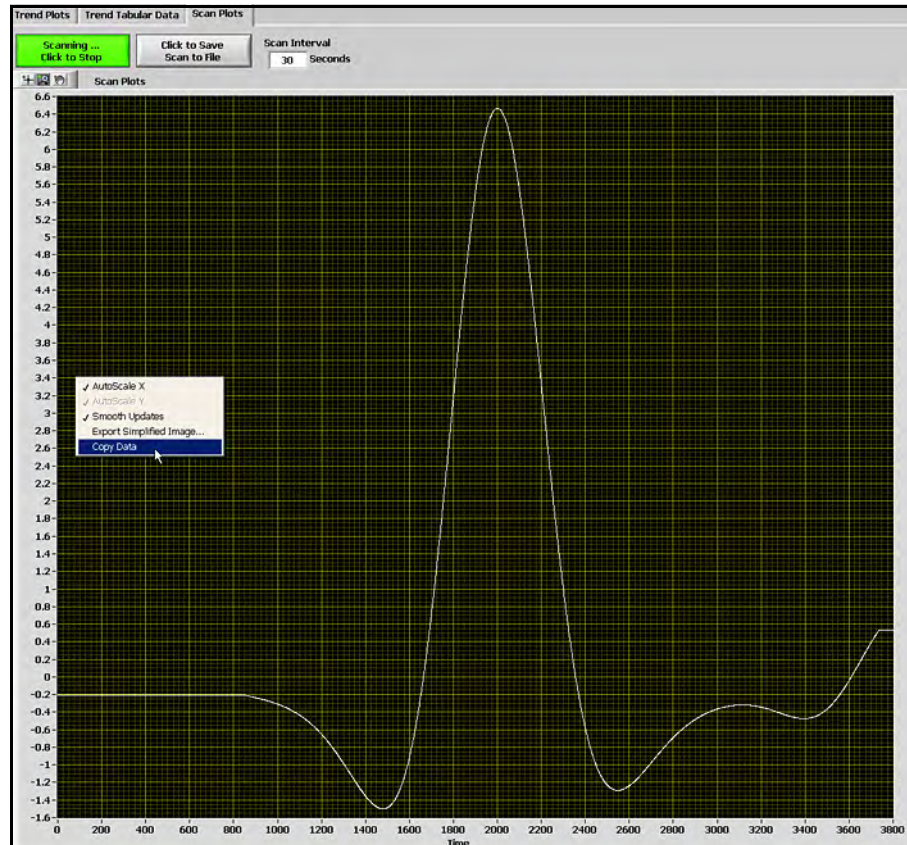
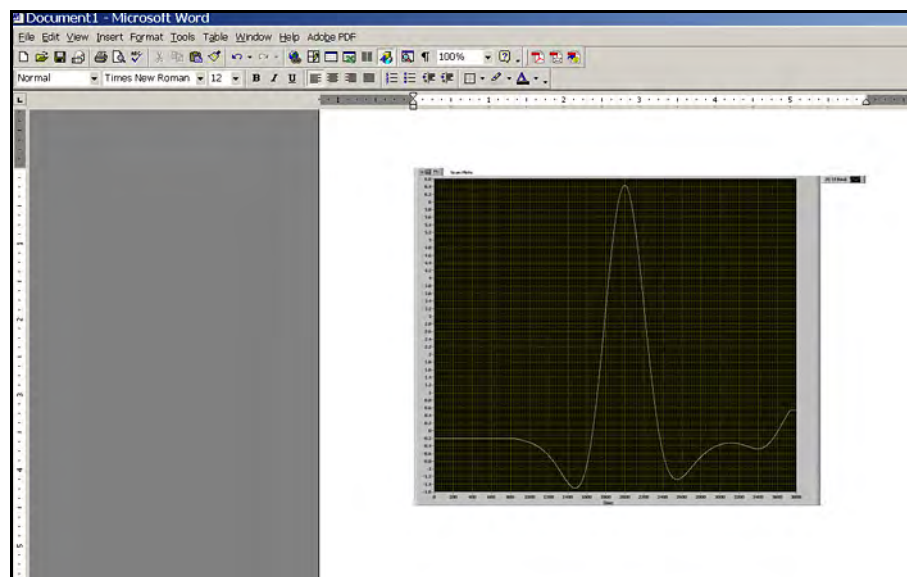

Figure 72: Copying a Trend Plot
Figure 73: Pasting a Trend Plot
4. Copying and Pasting a Trend Plot can be done from **AuroraView** (see *Figure 72* and *Figure 73* below) One way to do this quickly is to simply right click over the data area and choose Copy. In another application, like Microsoft Word, simply paste.